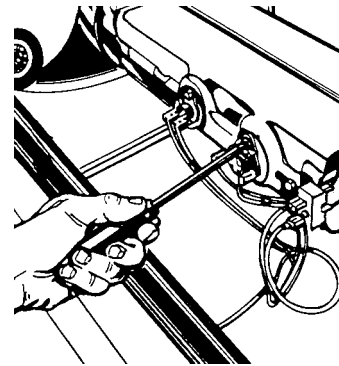

Fig. 34
5. Remove screws to high limit thermostat or thermal cut-off. (Fig. 34) Remove high limit thermostat or thermal cutoff.